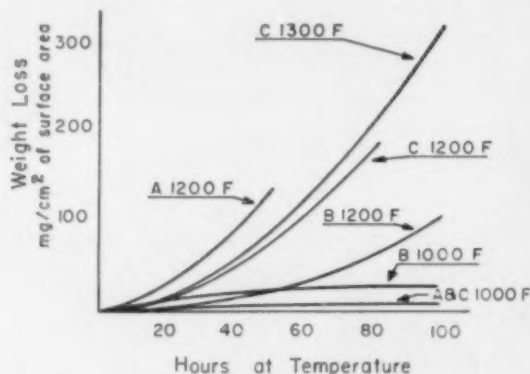

Fig. 1—Oxidation rates of three carbon materials, A, B, and C.
**Carbons:** Most unimpregnated carbons disintegrated completely or deteriorated rapidly at temperatures of 1000 F. The impregnants developed in recent years, however, gave extended life at 1000 F to a number of carbons, and a few even show appreciable life at 1200 F and at 1300 F. This is illustrated by oxidation curves, Fig. 1, for three representative impregnated carbons. In Table 1, impregnants do not appear to impair the excellent wear properties normally associated with these materials.